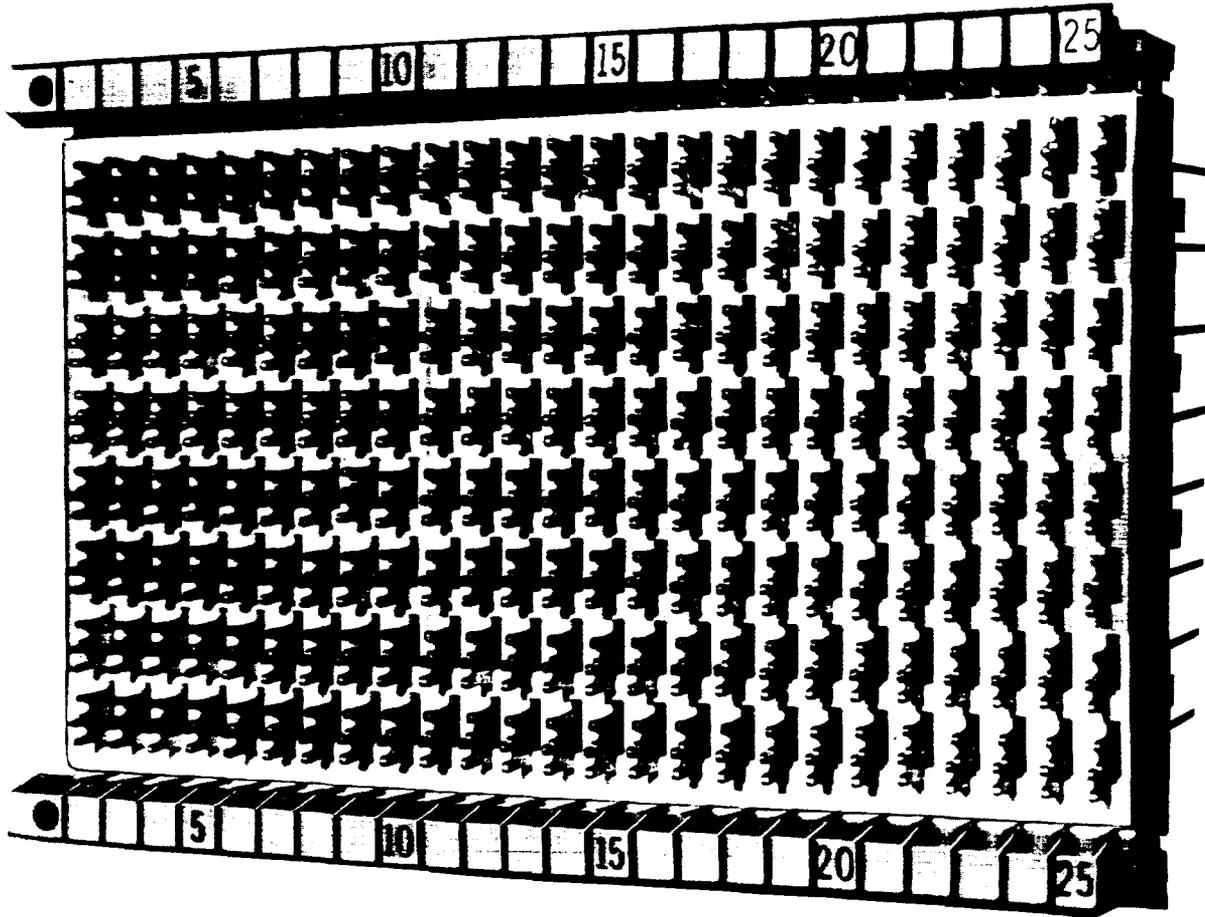

Figure 32—78-Type Connecting Block — 100-Pair Terminal Arrangement
8.02 The 78-type connecting blocks (Figure 32) are used with earlier *COSMIC* I and II distributing frames that were installed prior to the availability of the 112-type connecting blocks.